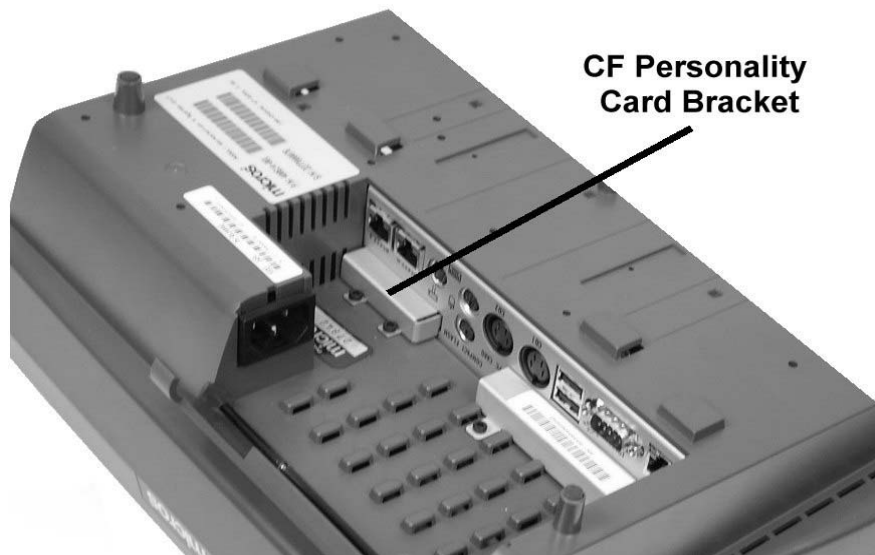

Figure 3-7: WS4 Personality Card Location
2. Place the inoperative unit face down on a counter surface to access the Personality Card bracket. Figure 3-7.